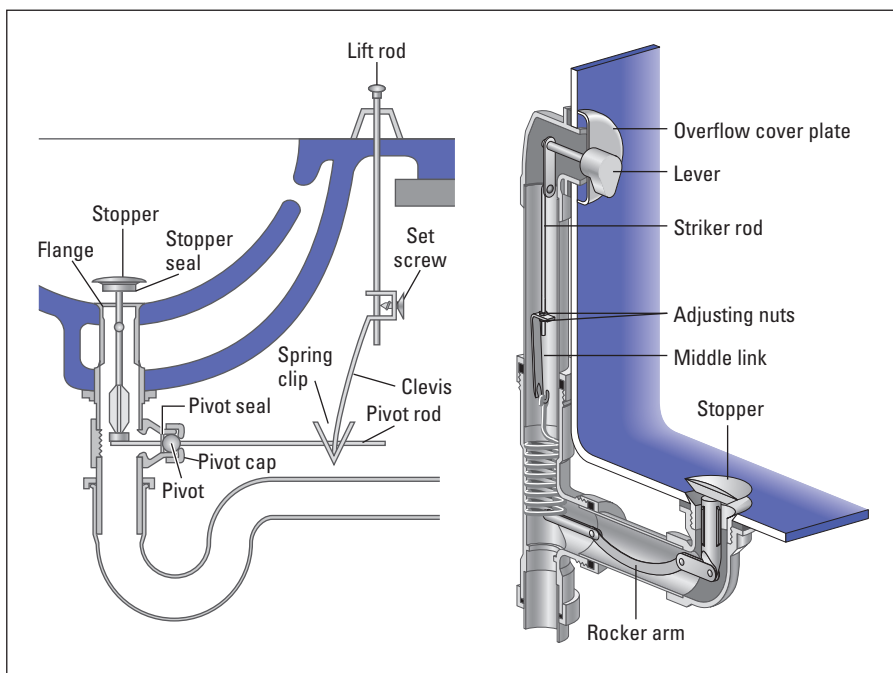

Figure 4-6:
1. **Remove the pop-up drain assembly by pulling it out of the drain (see Figure 4-6).**